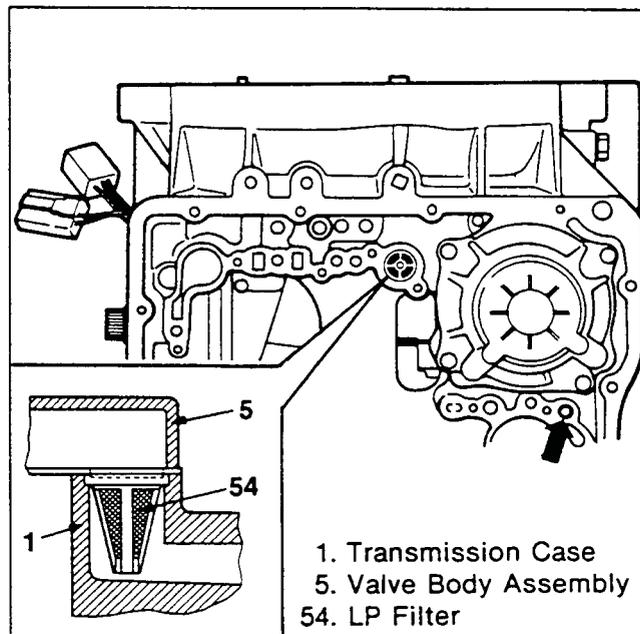

Figure 295. LP Filter Installation
(Figures 295, 296 and 297)
1. Install the LP filter into the transmission case (figure 295).